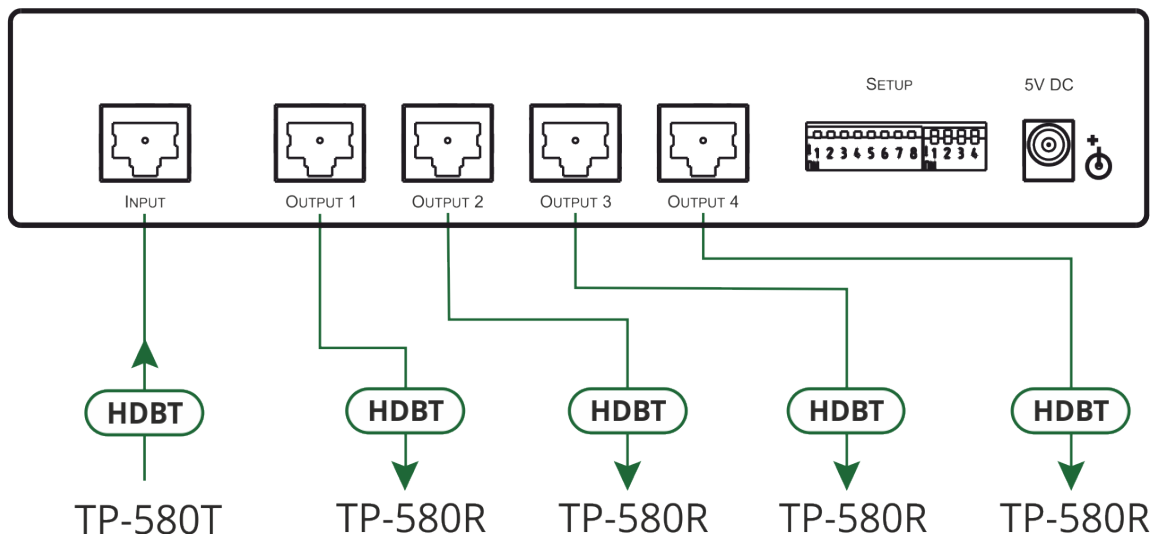

Figure 2: Connecting to the VM-4DT Rear Panel
To connect the **VM-4DT** as illustrated in the example in Figure 2:
3. Connect the 5V DC power adapter to the power socket  unit and then connect the adapter to the mains electricity (not shown in Figure 2). The ON LED lights .